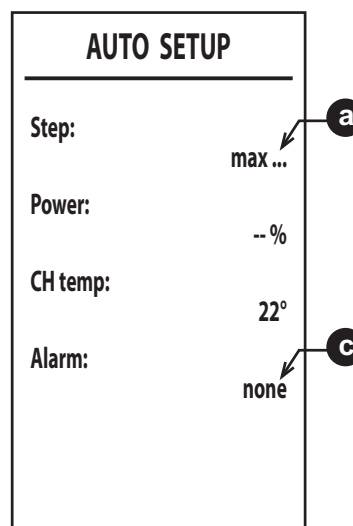

fig. 51
- If the ignition phase is unsuccessful, the message **[max_err]** appears at point **a** and an error code at point **c** (fig. 51). Possible causes of failed ignition are listed in **Note 2**. Exit Auto Set-up with button , eliminate the fault and repeat the procedure from point 1.